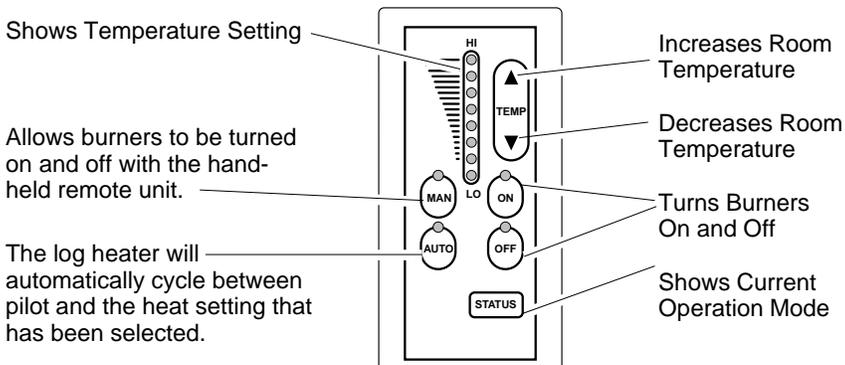

Figure 24 - Thermostat Hand-Held Remote Control Unit Selections (FHRCT only)
2. Select the MAN (manual) or AUTO button on the hand-held remote control unit (see Figure 24, page 16).